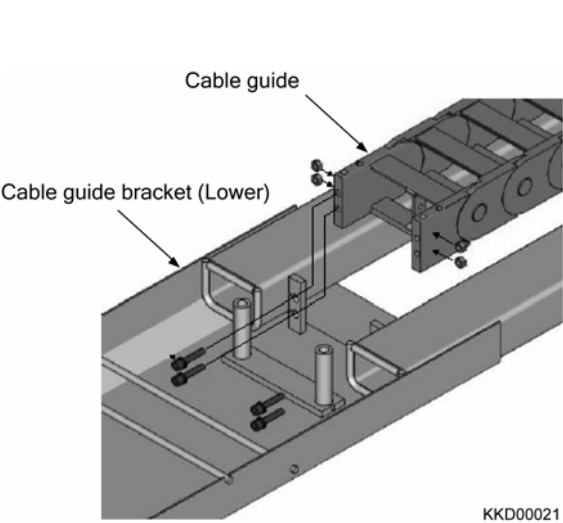

Fig. 2-50
25) Remove the cable guide from the cable guide bracket (Lower). (Fig. 2-50)